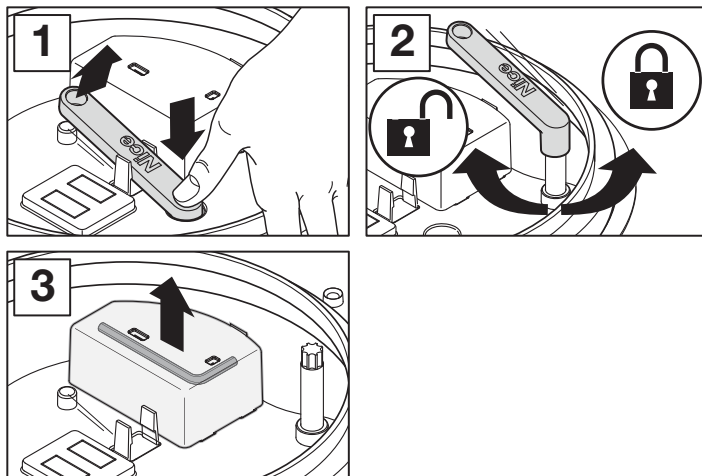
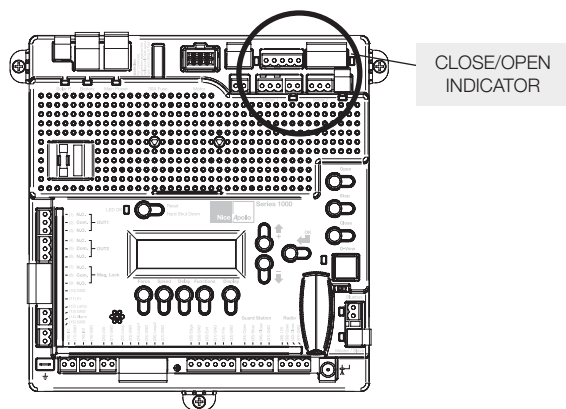
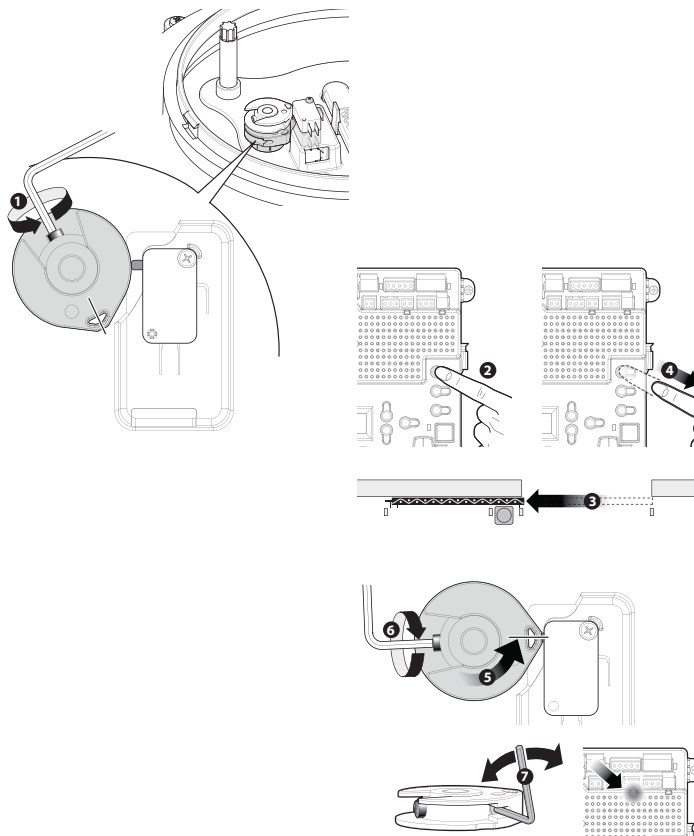
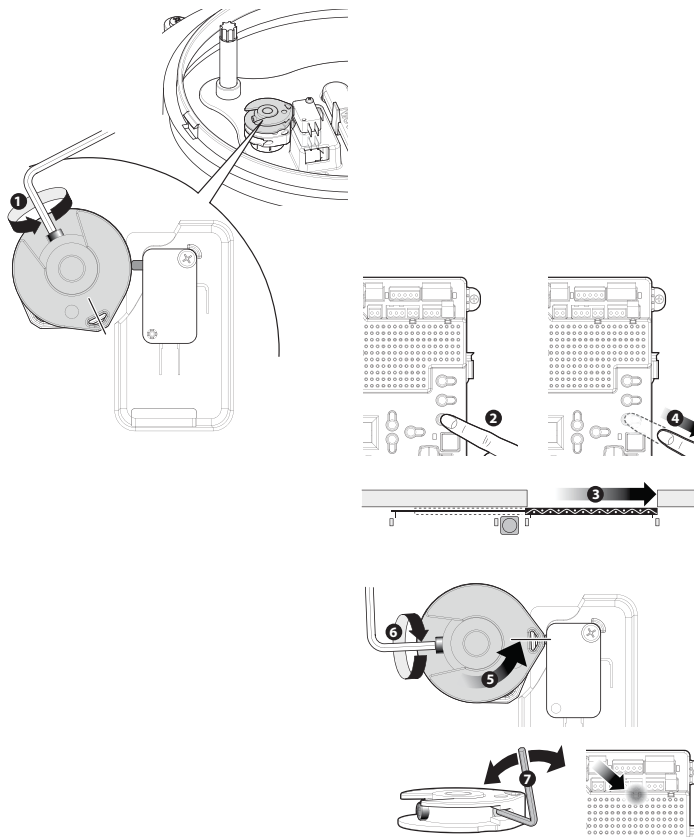

Figure 9 - MANUAL RELEASE
Figure 10 - INDICATOR LIGHT
Figure 11 - FULLY OPEN LIMIT SWITCH
Figure 12 - FULLY CLOSED LIMIT SWITCH
4. Remove the Allen key inside the lid (phase 3 - fig. 9) and then loosen the grub screw of the cams (phase 4 - fig. 11) so that they can be turned freely by hand.
6. Using the OPEN button on the front of the Control board, hold the OPEN button down until the gate reaches the fully open position or where the installer wants the gate to stop as FULLY OPEN (see figure 11). If the gate moves the wrong direction, refer to section 16.0 to reverse the direction.
To adjust the OPEN limit switch on the LOWER CAM (see figure 11) and adjust that Open Limit Switch CAM until the GREEN light (see figure 10) illuminates on the front of the control board. The FULLY OPEN limit switch is now set. Holding it firmly in place, use the supplied allen wrench to tighten the set screw.
8. Using the CLOSE button on the front of the Control Board, hold the CLOSE button down until the gate reaches the fully intended closed position. Once the gate is in the FULLY INTENDED CLOSED position on the UPPER CAM (see figure 12) and adjust the CLOSED Limit Switch CAM until the RED light illuminates on the front of the control board. The FULLY CLOSED limit switch is now set. Holding it firmly in place, use the supplied allen wrench to tighten the set screw.
the gate to fine tune the exact stopping point. See step 7 in Figure 11 and Figure 12.